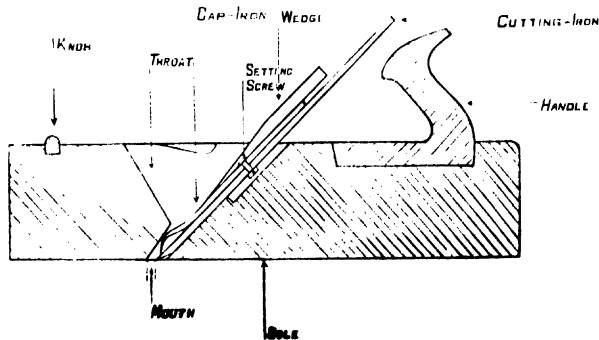

Fig. 20.
**Jack Plane.**—This is a tool for making a rough surface of wood even. Fig. 20 shows the general appearance of the Jack Plane. It is about 16" long, 2 $\frac{1}{4}$ " wide, and 3" deep.